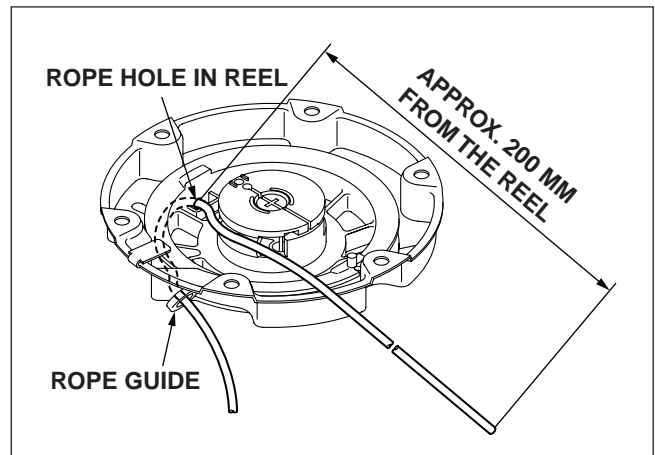

Fig. 12-7
(4) Tension the reel spring
-2 Fix the reel so that the rope hole in the reel is aligned with the rope guide. (Fig. 12-7)
- 1 Pass the rope end through the rope guide and the rope hole of the reel and pull through approximately 20 cm out of the reel. (Fig. 12-7)